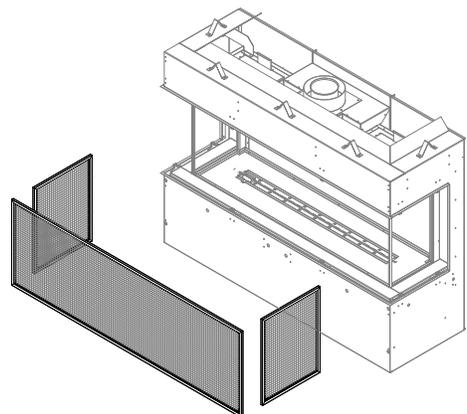

Figure 4.10 - Safety Screen Removal
2. Remove the exterior safety screens, exterior media tray, firebox glass, and crushed media. You may find it beneficial to remove the lower glass brackets for increased accessibility. Figure 4.10, 4.11, and 4.12.